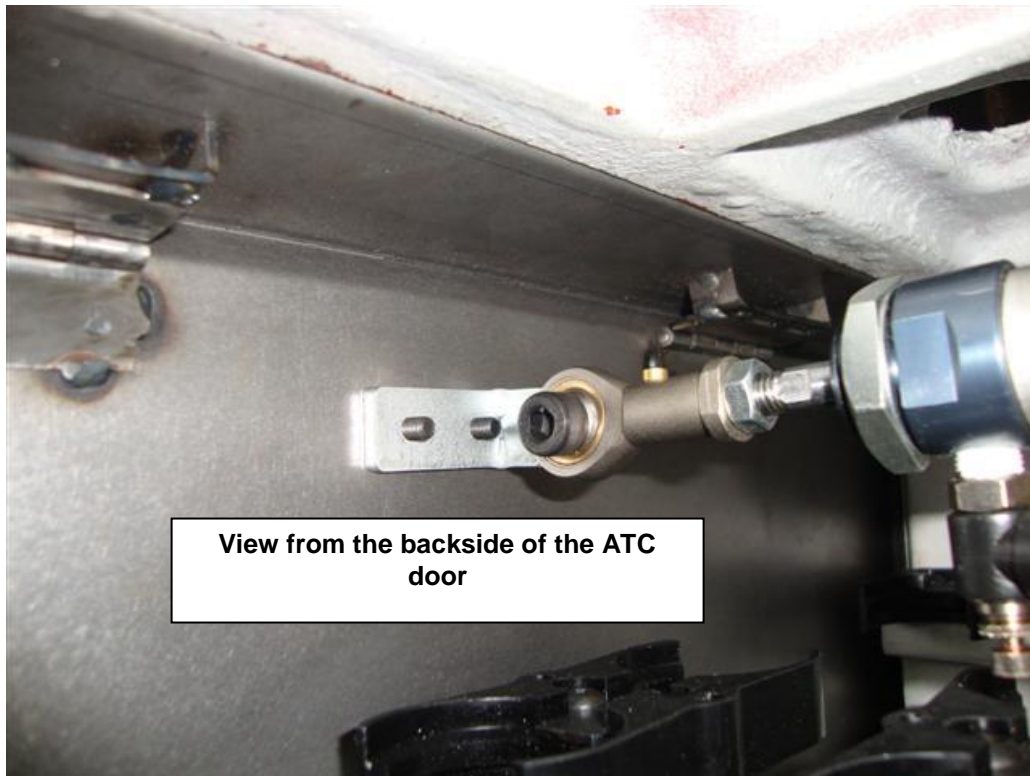

Figure 6.1.1b
- c. Remove the ATC door by removing the four BHCS that secure the door flange to the column. Disconnect the door from the air cylinder at the pivot bolt. See figure 6.1.1b.
- iii. Lower the head, remove the upper sheet metal cover to access the upper (2) screws that secure the Z-axis ballscrew cover (frame) to the column.